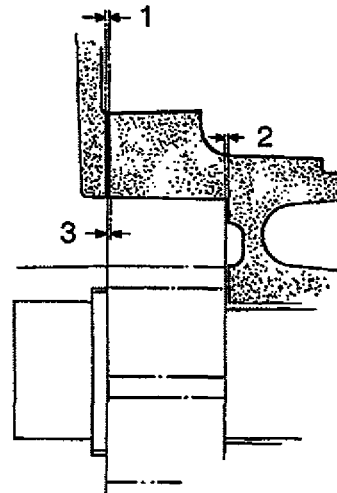

Fig. 12G
NOTE: If new rotors are to be fitted, check the following limits with the end faces of the rotors dry and clamped into the pump body: Using a straight edge across the rotors, check the gap between the rotors and the end face of the pump body with feeler gauges (see Fig. 12G).
Check the thickness of the new pump cover joint (15) (see Fig. 12G (1)) which should be 0.229 mm to 0.254 mm (0.009" to 0.011"). Reject any joints which fall outside this limit. Allow for approximately 0.05 mm to 0.08 mm (0.002" to 0.003") compression of the pump cover joint when the holding bolts are tightened. Calculate the end float of the rotors on the drive shaft to pump body and pump cover see Fig. 12G (2), which should be a minimum 0.08 mm (0.003") and a maximum 0.15 mm (0.006") (see Fig. 12G (3)).